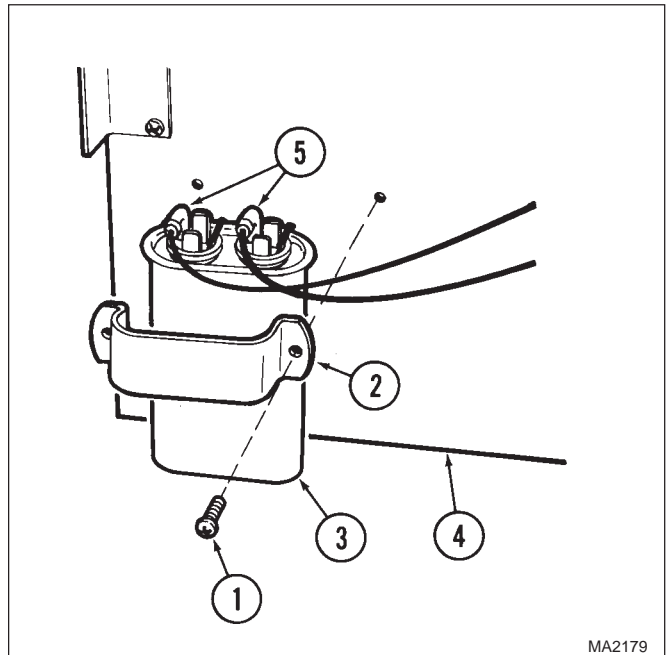

Figure 4-56. Lateral Tilt Capacitor Removal / Installation
- (2) Remove electrical cover (Refer to para 4-4).
- (3) Remove two screws (1, Figure 4-56), capacitor bracket (2), and partially separate lateral tilt capacitor (3) from electrical panel (4).